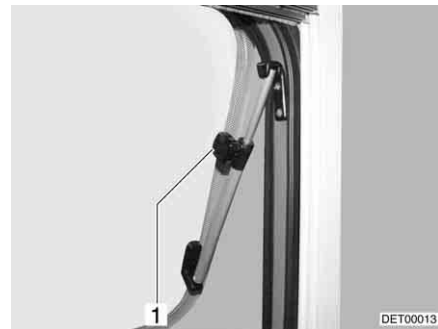

Fig. 67 Hinged window with rotary hinges, open
- Open the hinged window until the required position has been reached and use knurled knob (Fig. 67,1) to secure in position.
- Turn knurled knob (Fig. 67,1) until the latch is released.